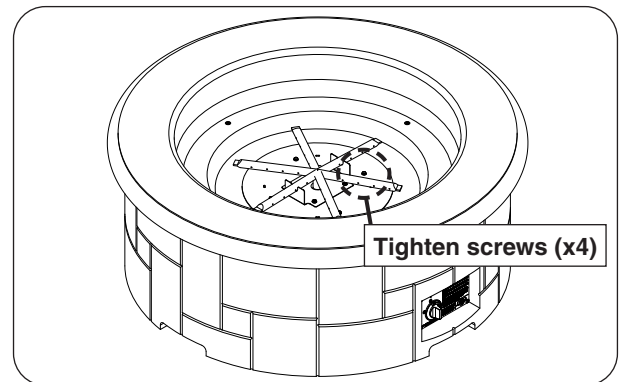

Fig. 31-3 Install burner
2. Use a $\frac{5}{16}$ " nut driver to fasten the burner to the base (see Fig. 31-3).